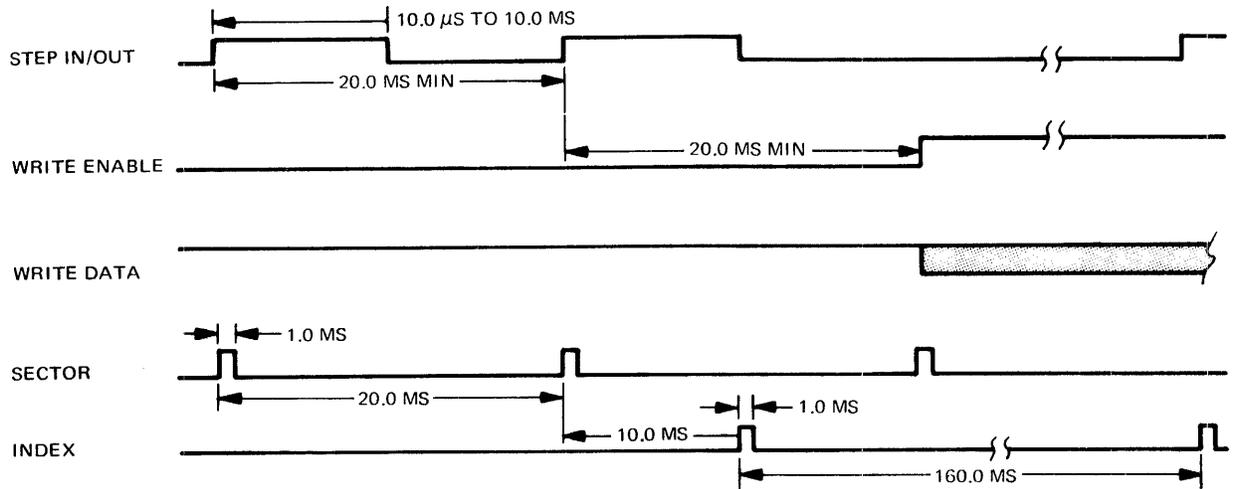

Figure 5. Typical Write Sequence
**Write.** Figure 5 shows a typical write timing sequence.
**Read.** For read operations, the output functions SEP DATA and SEP CLOCK can be substituted for WRITE DATA in Figure 5. Even though data is outputted immediately when the disc is loaded on the read/write head, reading should not start until the STEP IN or STEP OUT accessing has been completed. The user could accomplish this gating with a Read Enable function which would be used the same as for WRITE ENABLE. As suggested previously for Write, the user should use the SECTOR or INDEX pulses for gating output data from the 650. One of these functions would be connected to Read Enable (user provided) for proper synchronization.